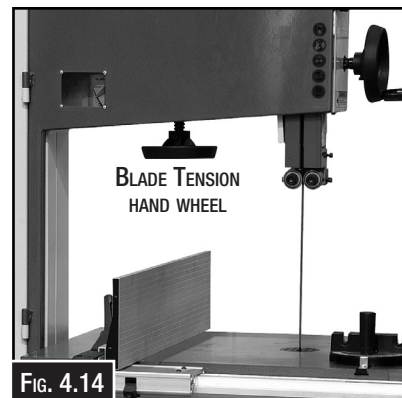
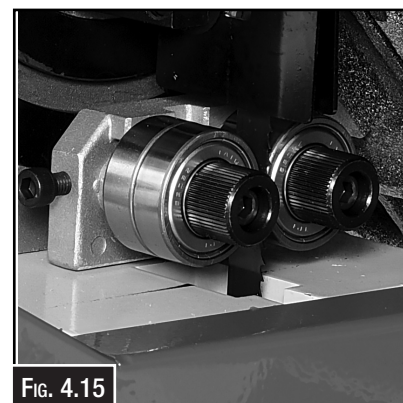

FIG. 4.14
FIG. 4.15
2. Raise the upper blade guide assembly as high as it will go, (Fig.4.14) and adjust the upper and lower guide blocks approximately 0.5mm away from the blade. (Fig. 4.15)